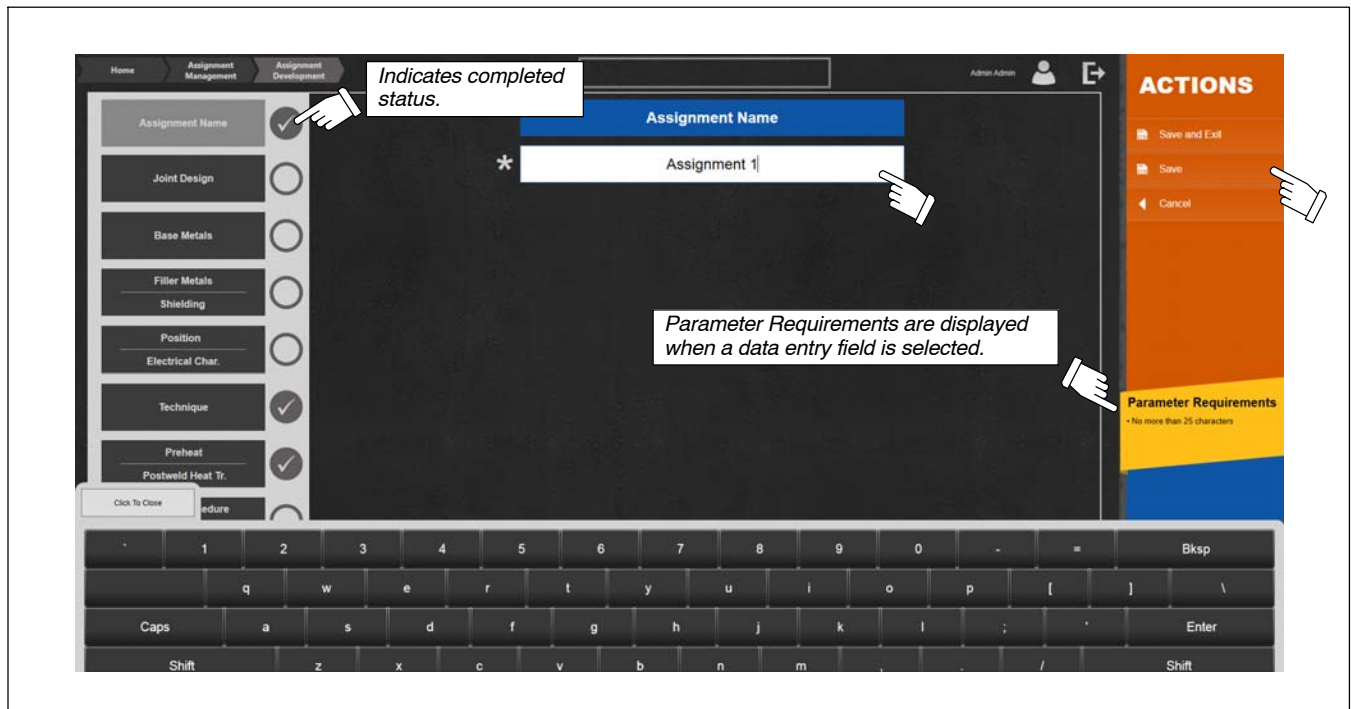

Figure 9-3. Changing Assignment Name
- Touch *Assignment Name* text field (shaded white) to open keyboard and change name of new assignment (Figure 9-3). (Assignment name is limited to 25 characters.) When finished, select (touch) the next parameter category (Joint Design), touch *Save* (to save name and proceed with additional changes to assignment), or touch *Save and Exit* (if no additional changes will be made). Touch *Cancel* to delete changes and restore original settings. Incomplete assignments can be saved but will not be displayed on assignment list on home screen.